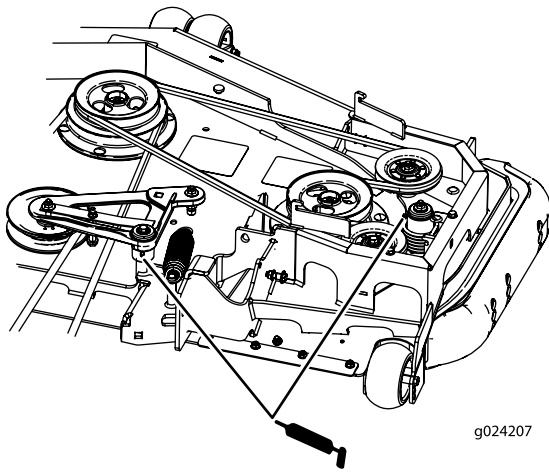

Figure 38
5. Grease the deck-belt idler arms (Figure 38).